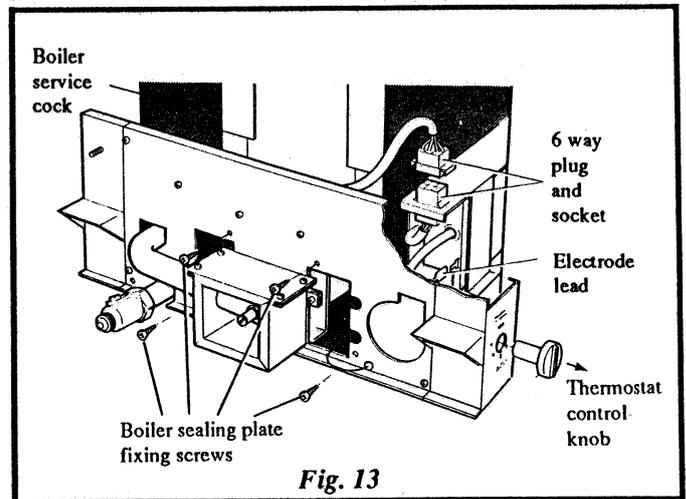

Fig. 13
14.1 Dismantle the boiler - see Figs. 13 and 14.
1. Close the boiler gas service cock, left hand side of the boiler, see Fig. 13 and undo the union.
5. Remove the four screws, see Fig. 13, securing the boiler sealing plate assembly.
5. Refit the burner and gas valve assembly and secure with four screws, see Fig. 13.
6. Reconnect the 6-way plug and electrode lead to the ignition control box, see Fig. 13.
7. Replace the boiler thermostat control knob, see Fig. 13 (Windsor, Mainflame or Legend fire only).